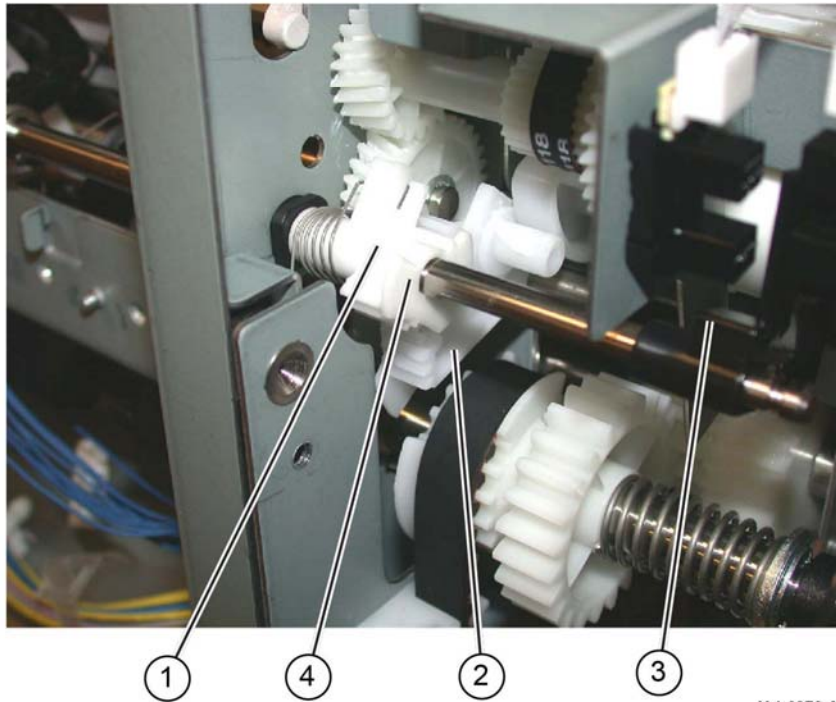

Figure 15 Gears and stack height sensor flag
8. Ensure that the shaft gear (1), pinion gear (2) and the stack height sensor flag (3) are position as shown in Figure 15, then install the E-ring (4).